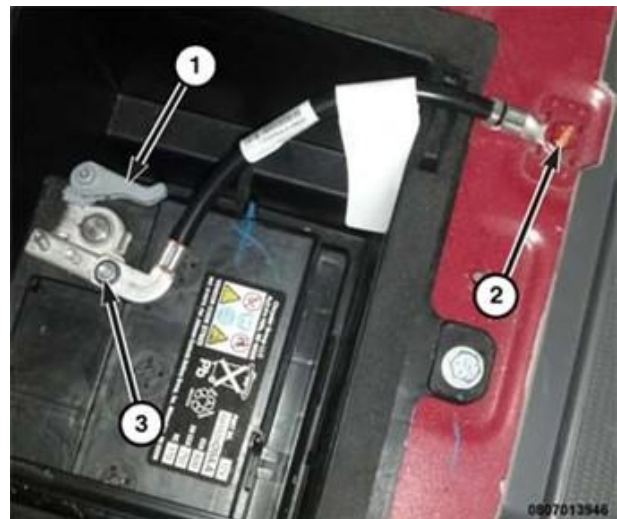

**Figure 4 – Battery**
4. Loosen the battery negative cable terminal clamp (1) and remove the negative cable from the terminal (Figure 4).